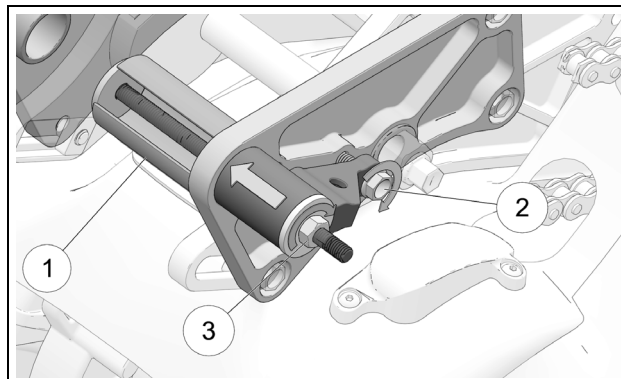

Figure 18
- Using the provided Mount adapter insertion tool (1) and the M8x25mm bolts (2), rotate and alternate between the tool's nut (3) and bolt (2) to insert mount adapters on both sides of the Bike Mount. See Figure 18.